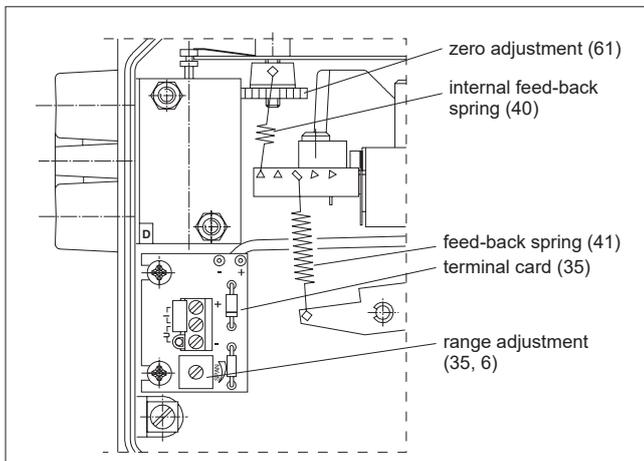

Fig. 12. Zero and range adjustments
1. Switch on the supply pressure (S) and the input signal (+/-).
3. Set the input signal at the closed limit of the valve so that it is 2 % i.e. 0.3 mA higher or lower than the limit value, e.g. $4 + 0.3 = 4.3$ mA or $20 - 0.3 = 19.7$ mA. Turn the zero adjustment nut (61) with a screwdriver or fingers so that the actuator comes slowly to the closed limit. The valve should open slightly with a 4 % change in signal, that is 0.6 mA, e.g. $4 + 0.6 = 4.6$ mA or $20 - 0.6 = 19.4$ mA. See Figures 12 and 13.
7. Screw on the pointer (32) into place so that the yellow line is in the direction of the valve closing member. Tighten the screw (57).